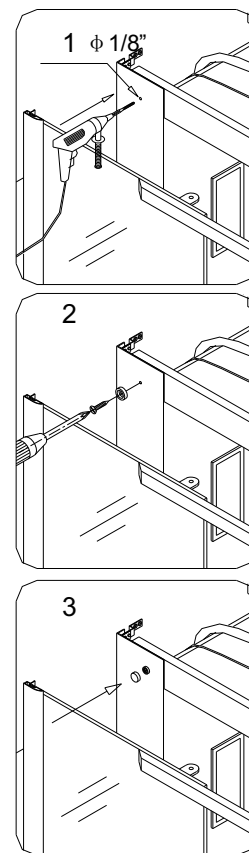

Fig. 16
10. Drill though the pre-drilled hole at the overlapping section of the two columns. Attach them with the **Round head screw ST4.2×16 (24)** and cover the exposed screw heads with **Decorative covers (25)**. See fig. 16 for details.